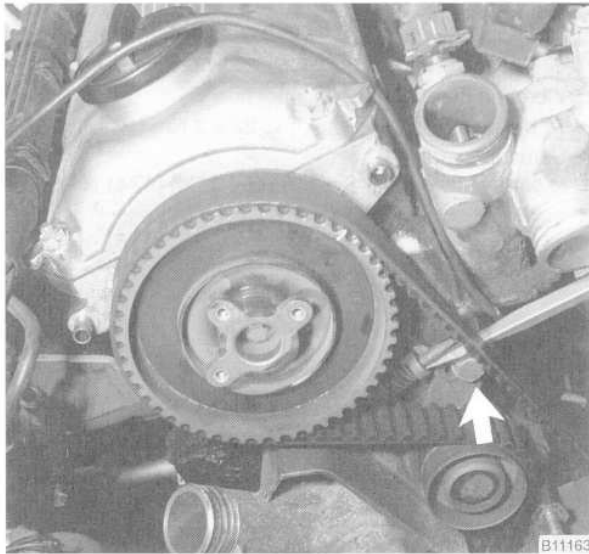

Fig. 5. Push in on the tensioner with screwdriver, then tighten top bolt (arrow).
15. Using a long screwdriver, push the tensioner in as far as it will go to relieve the belt tension and then tighten the upper bolt. See Fig. 5. Remove the belt from the sprockets.